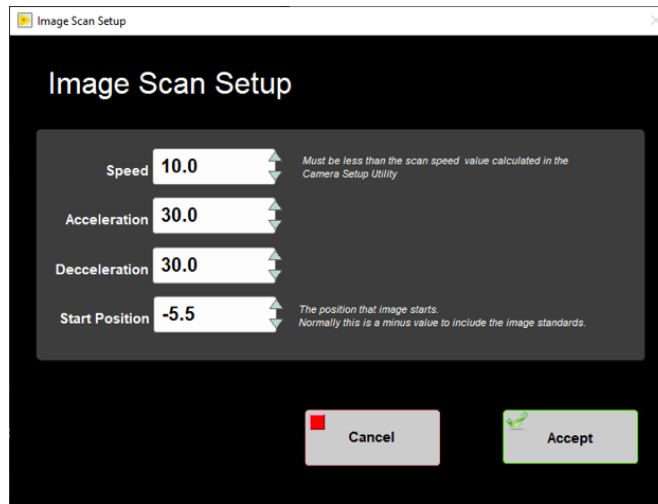

Figure 23: Checking the Image Scan Speed.
3. Compare the current scan rate (**Speed**) to the requested rate. The **Speed** (Figure 23) of the camera will be in the first box. If the values need to be changed to match the requested values by the science party, please proceed to the **calibration** section below as you will need to do a full calibration. If the values match, close the 'Image Scan Setup' window and proceed with the following checks. Speed of 8 to 10 is the most common value and must be less than the scan speed value calculated in the JAI Camera Setup utility.
4. Check that the **Max Image Scan Speed** is equal to, or slightly more than the designated scan rate (**Speed**, Figure 23). The Max Image Scan Speed is usually between 8 to 10.